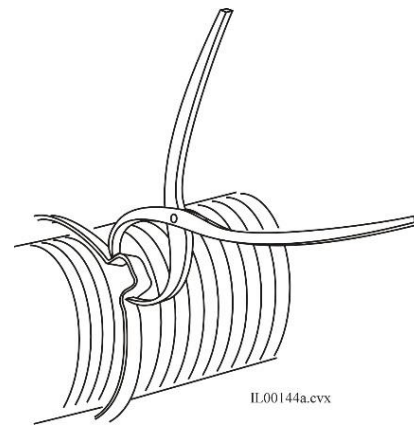

Figure 2. How to crimp the clamp to the duct
Connecting the supply tubing or the sound attenuator to the plenum requires a plenum take-off. Refer to Bulletin 30-050 for the plenum take-off instructions. See Figure 2 for assembly view.
STEP 3. Position the clamp and tubing over the ridge or dimple before tightening clamp to prevent the duct from slipping off. Using the clamp pliers, crimp the clamp "ear" to tighten the clamp. Be sure that the pliers reach under the clamp so that the flat portion of the ear is not bent. Crimp with sufficient force to close the clamp but not so much as to cut the clamp. See Figure 2 for detail.